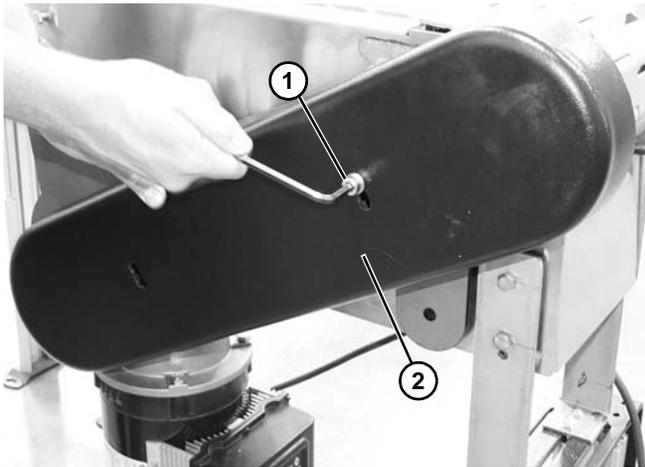

Figure 48
1. Remove socket head screws (Figure 48, item 1) and drive cover (Figure 48, item 2).